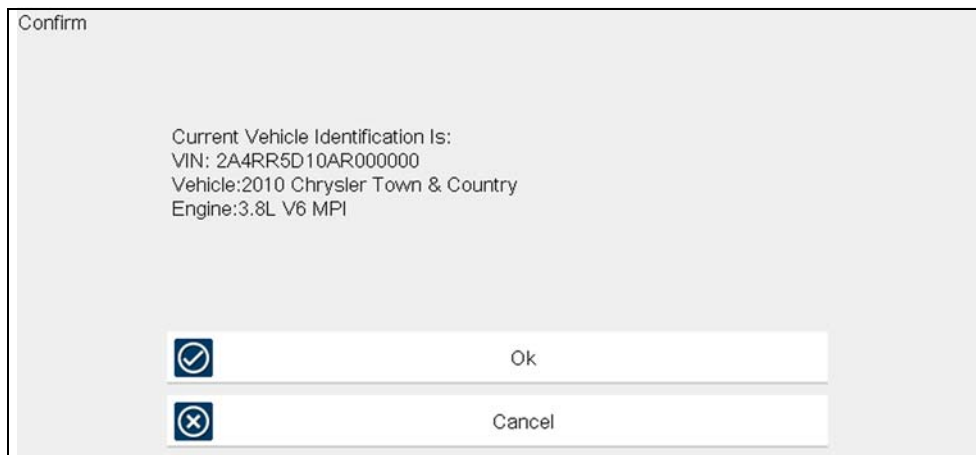

Figure 5-3 Vehicle confirmation screen
- a. Instant ID may occur, as indicated by an audible "beep" approximately 6 seconds after boot-up. Select the **Scanner** icon, then wait for the vehicle confirmation screen (Figure 5-3) and select **OK** to continue. Then proceed to **step 6**. See *Instant ID* on page 16, for additional information about this function.
b2.) Once the vehicle has been identified, the vehicle confirmation screen displays (Figure 5-3). If the vehicle information is correct, select **OK** to continue, then proceed to step 6.